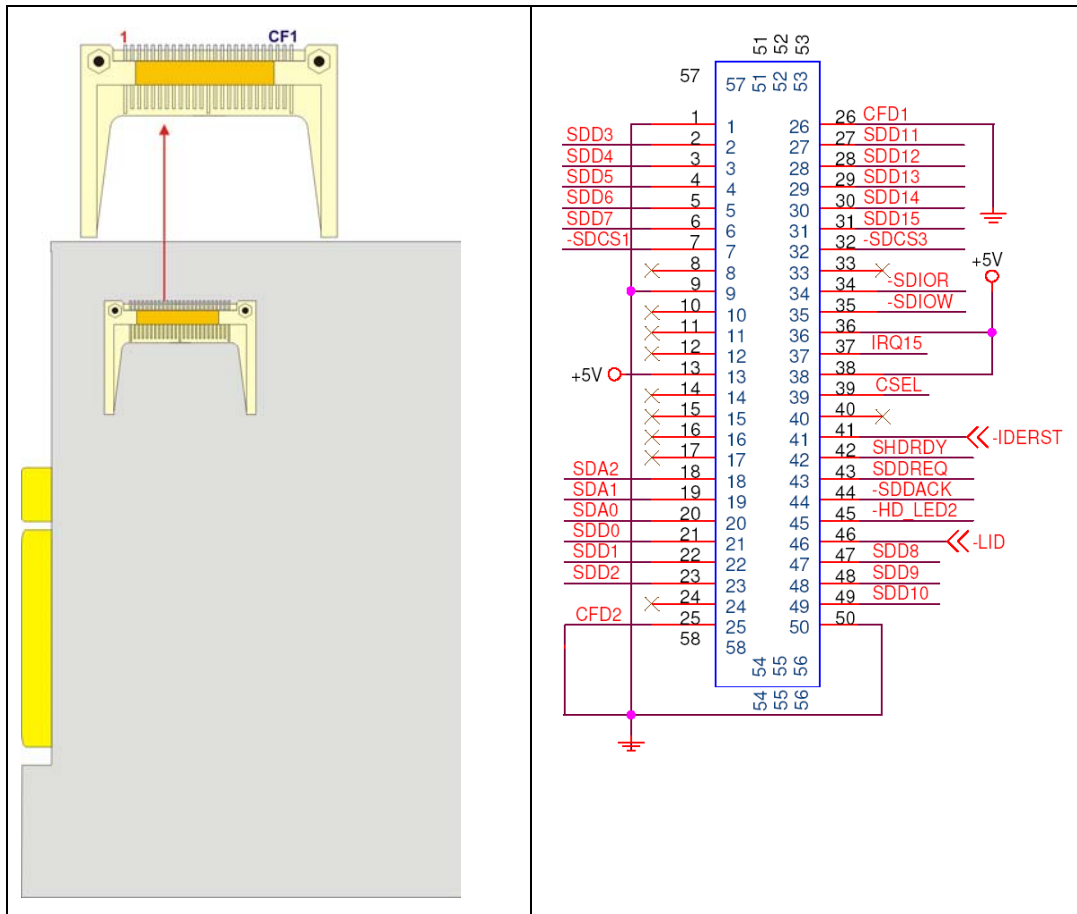

Figure 3-5: CompactFlash Connector Location
- CN Location:** See Figure 3-5